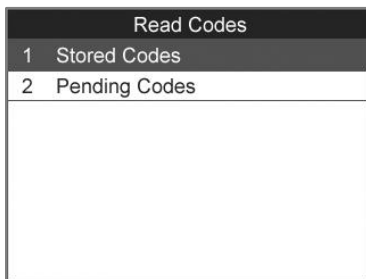

Figure 5.4
- 2) Use the **UP/DOWN** scroll button to select **Stored Codes**, **Pending Codes** or **Permanent Codes** from the **Read Codes** menu and press the **OK** button. (Figure 5.4)